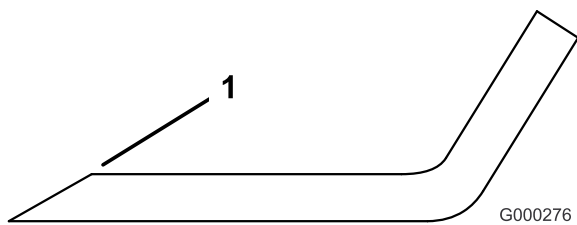

Figure 94
1. Use a file to sharpen the cutting edge at both ends of the blade (Figure 94). Maintain the original angle. The blade retains its balance if the same amount of material is removed from both cutting edges.